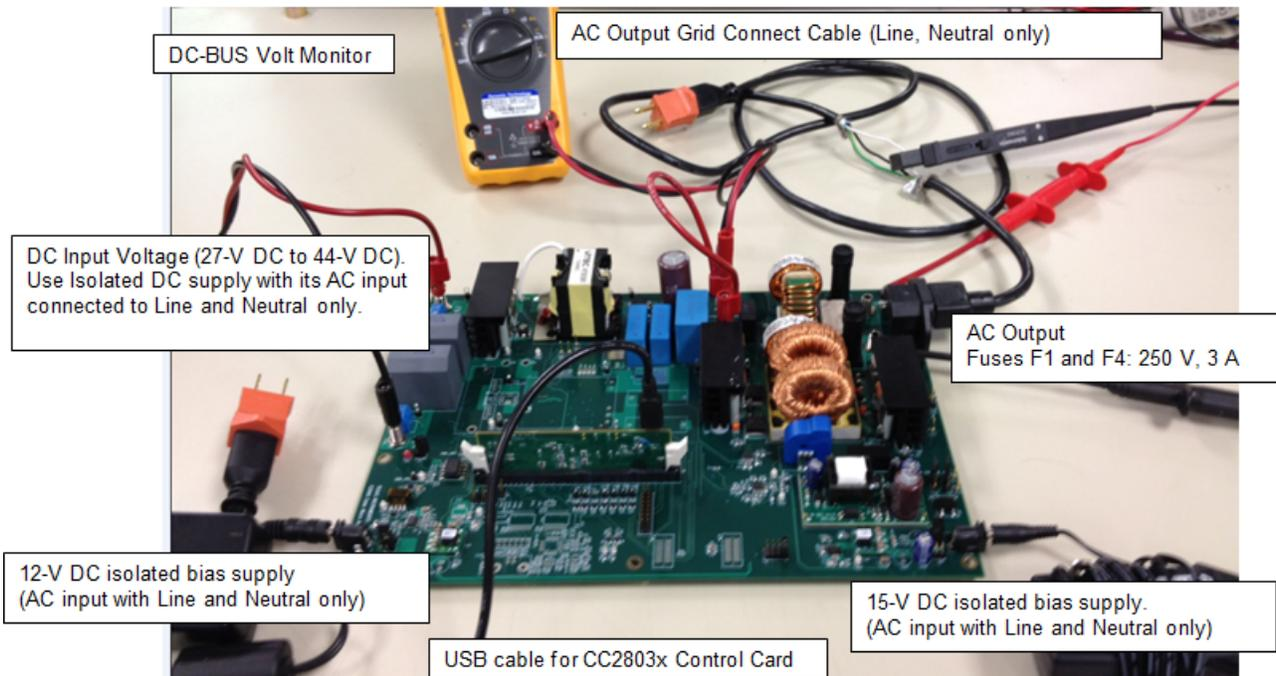

Figure 4. Solar Micro Inverter Test Setup
10. Connect the external 12-V DC isolated bias supply to the C:JP2 connector and power it on using a 110 or 220-V AC input (Figure 4, lower left). Make sure the supply uses line and neutral connections only (no earth connections).
11. Connect the external 15-V DC isolated bias supply to the C:JP3 connector and power it on using 110 or 220-V AC input (Figure 4, lower right). Make sure the supply uses line and neutral connection only (no earth connections).